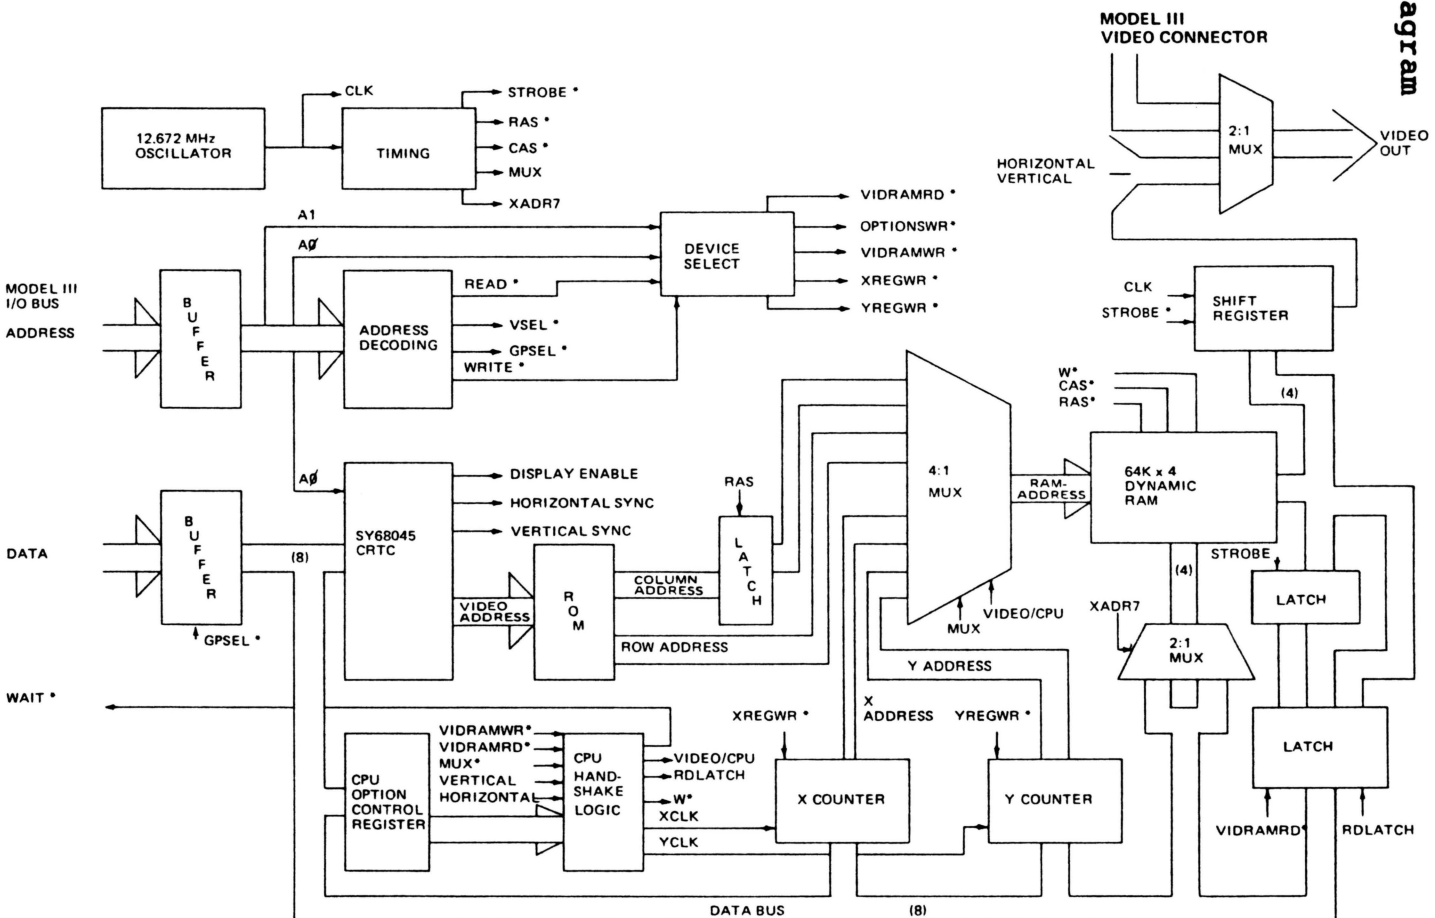

Figure 3. Model III Graphics Block Diagram
8. It is possible that, after installation of the Graphics Board, the video display would be too large for the CRT. If this happens, adjust the horizontal and vertical size and the horizontal and vertical linearity. (Refer to the Model III Technical Reference Handbook, Section VII Video Monitor CRT, Figure 3 and Part H under Service Adjustments.)